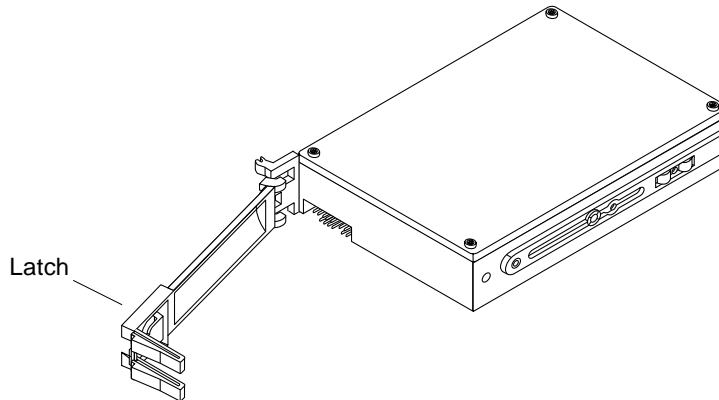

FIGURE 5-8 Disk Drive with Ejector Drive Retainer Open
2. Unlatch and open the ejector drive retainer on the drive to be replaced (FIGURE 5-8).
7. Unlatch and then open the ejector drive retainer for the drive being replaced or installed (FIGURE 5-8).